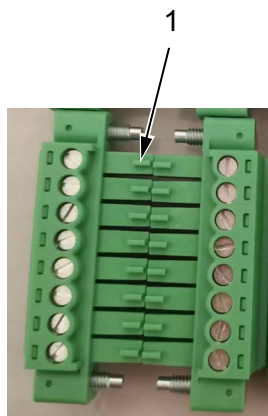

Fig. 21: Strip on connector (Phoenix)
- If it has not yet been done, please remove the strips from the connector (fig. 21, no. 1) with a wire cutter at the required position (see table 6 to table 9) to allow the connector to be inserted into the corresponding terminal strip.